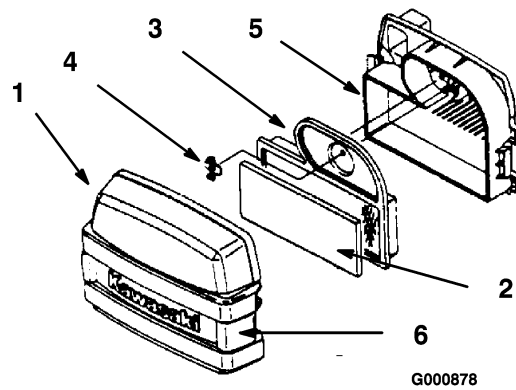

Figure 25
3. Clean around the air cleaner to prevent dirt from getting into the engine and causing damage. Unlatch the two side latches and remove the air cleaner cover (Figure 25).
4. Carefully remove the foam element from the paper element (Figure 25).
5. Unscrew the wing nut and remove the paper element (Figure 25).